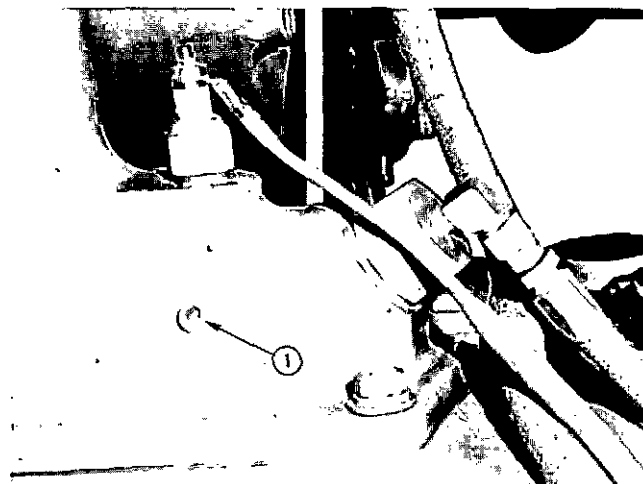

Fig. 1-4 (N11949) Glow plug inspection hole plug - NT engine
6. If engine gives no indication of starting during first three full strokes of preheater pump, touch-check intake manifold for heat. If no heat, check electrical wiring. If wiring is all right, remove 1/8 inch pipe plug (1, Fig. 1-4)